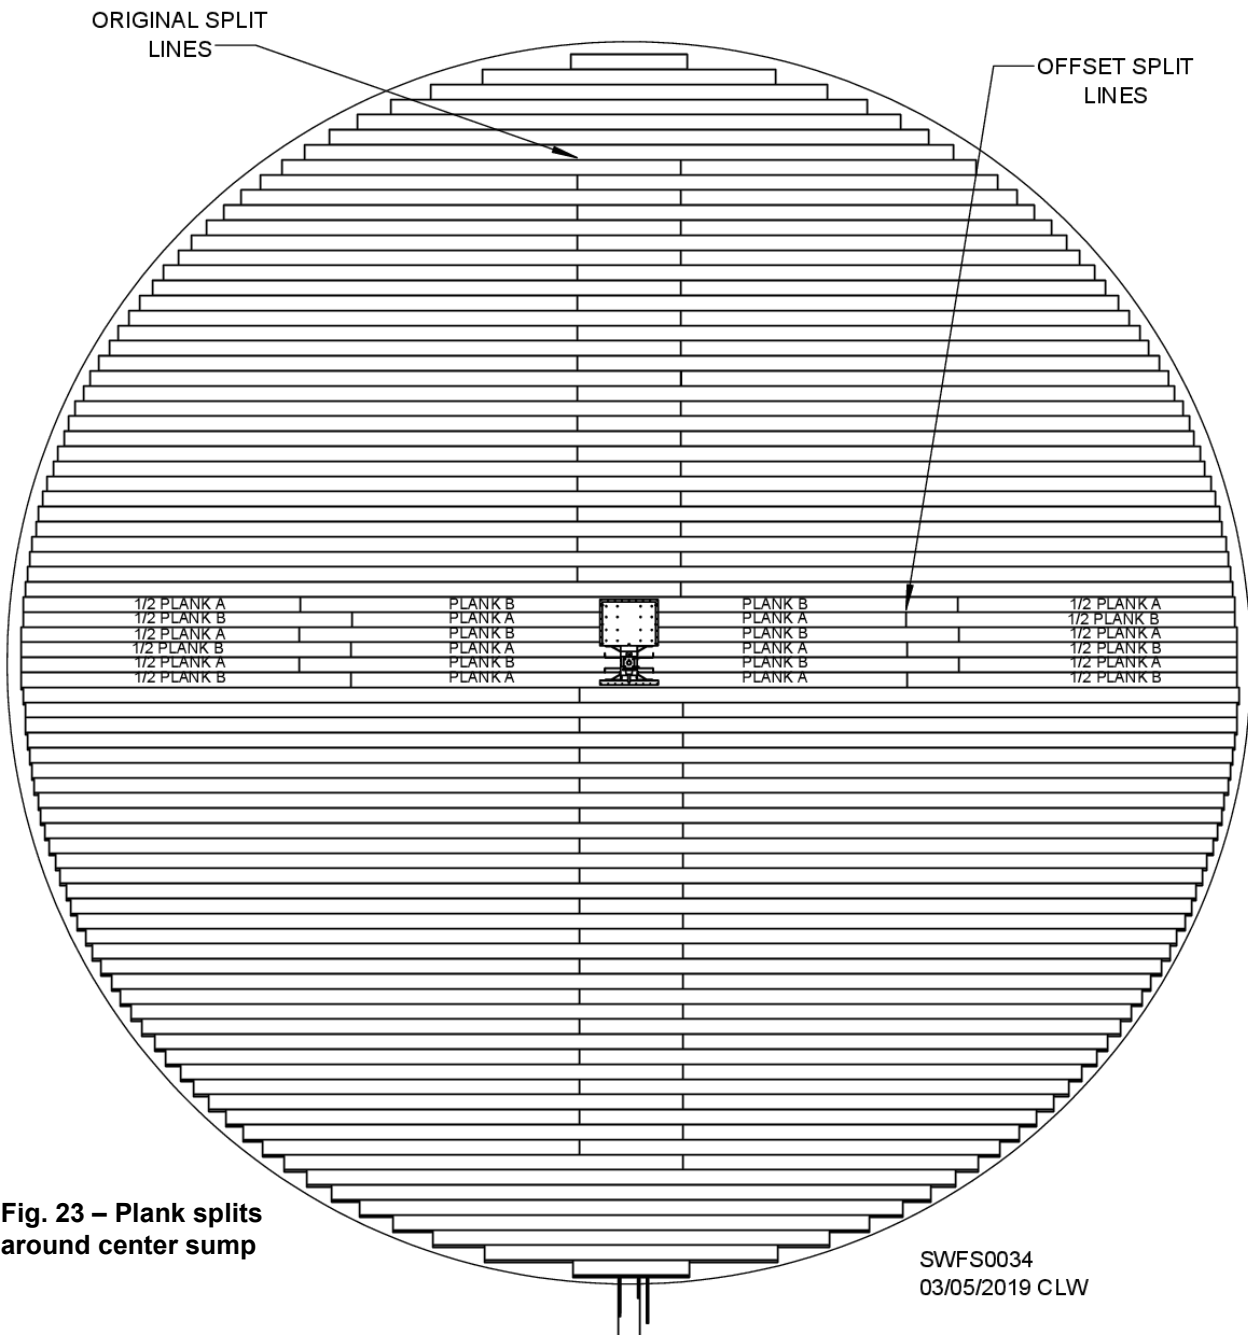

Fig. 23 – Plank splits around center sump
1. Cut "A" plank in half. Use halves as outermost segments of split plank. See Fig. 23.